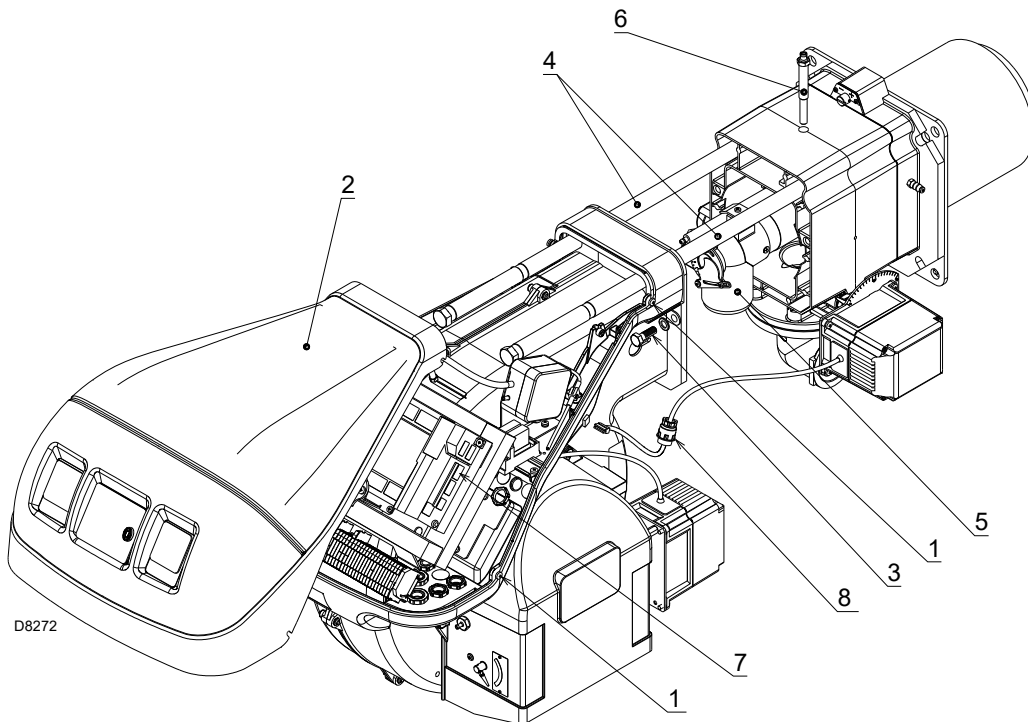

Fig. 37
Make sure that the gas outlet holes for the start-up, on the combustion head distributor, are free of dirt or rust deposits. If in doubt, disassemble the elbow (Fig. 37 at page 51).
- Loosen the 4 screws 1)(Fig. 37) and remove the hood 2).